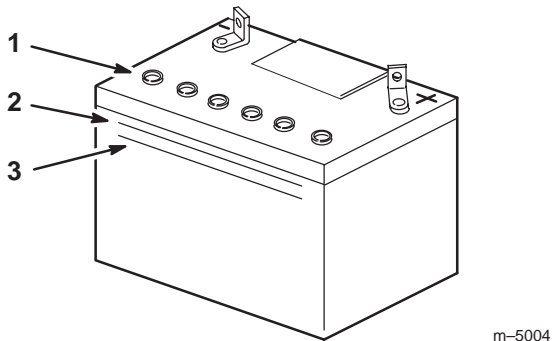

Figure 62
2. Look at the side of the battery. The electrolyte must be up to the **upper** line (Fig. 62). Do not allow the electrolyte to get below the **lower** line (Fig. 62).
3. Remove the vent caps from the battery (Fig. 62).
4. Slowly pour distilled water into each battery cell until the level is up to the **upper** line (Fig. 62) on the battery case.
5. Wait five to ten minutes after filling the battery cells. Add distilled water, if necessary, until the electrolyte level is up to the **upper** line (Fig. 62) on the battery case.